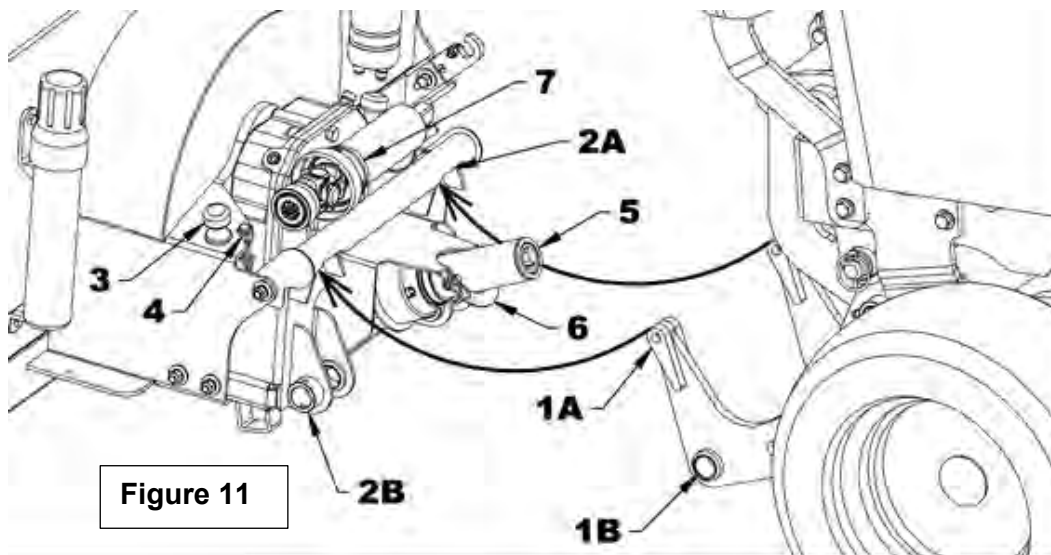

Figure 11
PRECAUTIONS to follow BEFORE each connection (Figure 11)
Procedure to follow to Connect the Snowblower (Figures 11 to 17)
- **STEP 1: Figure 11:** Start the tractor, release the parking brake, drive slowly, making sure to align the female hitch on the snowblower with the male hitch on the tractor. Lower the male tractor hitch sufficiently so that the two upper points of the hitch (item 1A) fit into the tube openings (item 2A) of the female hitch of the snowblower.
- **STEP 2: Figure 11:** Using the tractor hydraulic control lever, lift the snowblower fully upwards in order to properly position the snowblower hitch with the male hitch on the tractor. This step will allow the bushings of the male hitch (item 1B) to align well with the bushings of the female hitch of the snowblower (item 2B)